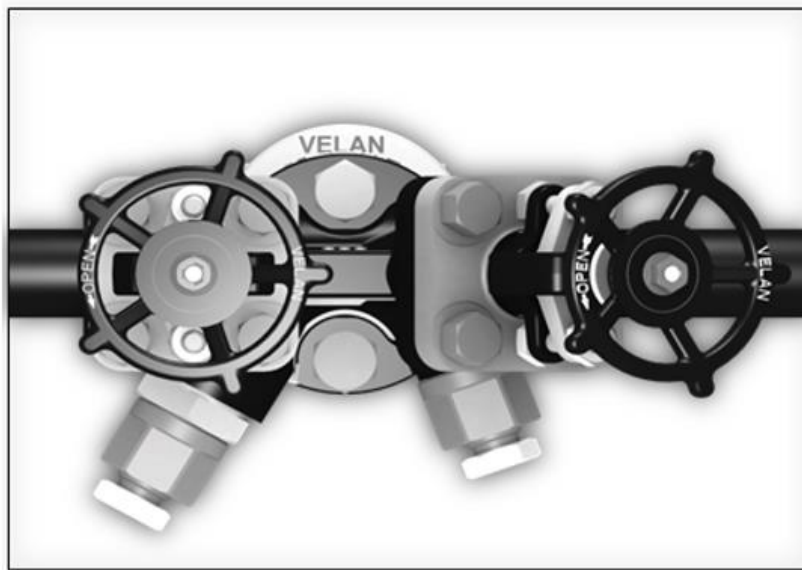

Figure 2.3 VTCS Installed in Horizontal position
4. Place the unit horizontally and install according to the type of connections as shown in Fig.2.3